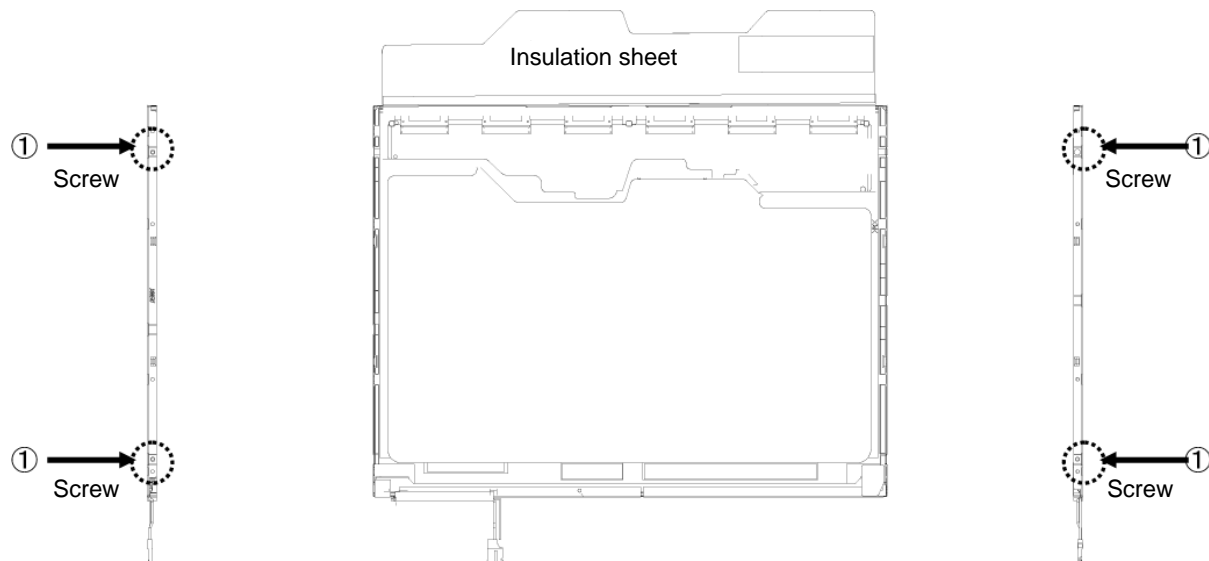

Figure 4-54 Replacing 14.1 Inch TMD fluorescent lamp (SXGA+) (2)
1. Spread out the insulation sheet without detaching it from the side bezel, as shown in Figure 4-54.